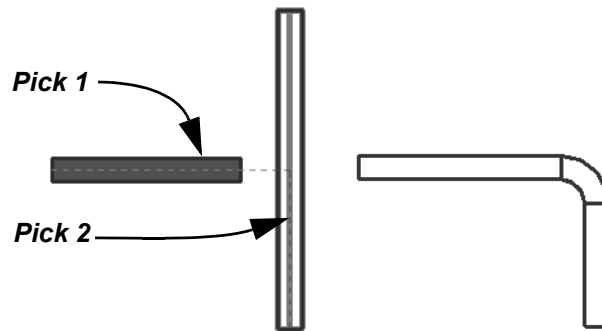

Figure 2–73
3. Select the second linear element on the side you want to keep, as shown in Figure 2–73.